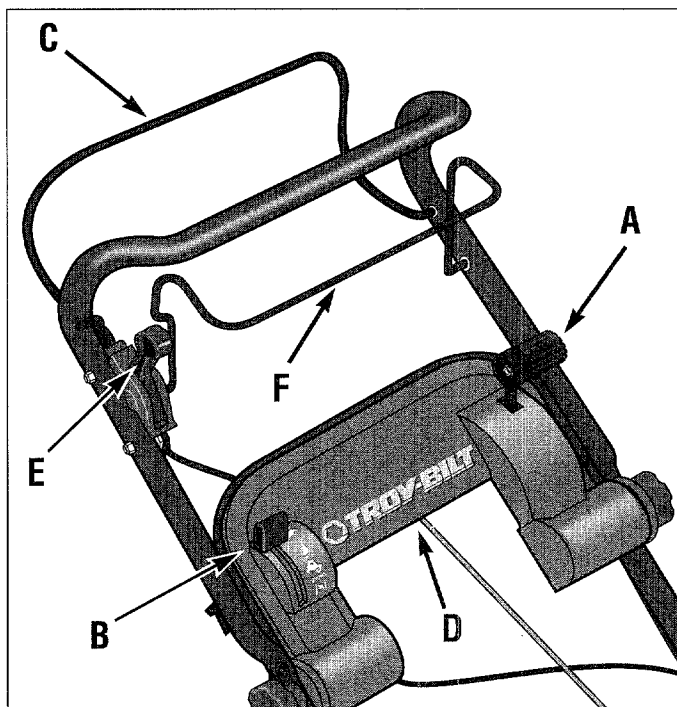
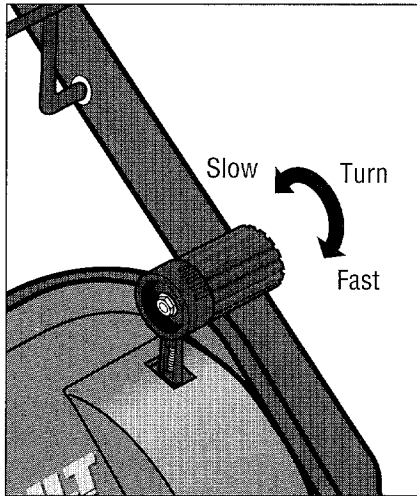

Figure 4-10: Operating Controls on Models 34311 and 34328.
Figure 4-11: Operating the Wheel Speed Adjustment Knob.
IMPORTANT: This model is equipped with a Blade Brake Control System which allows engine to run and wheels to move mower forward without mower blade rotating. See F in Figure 4-10 which is Blade Brake Control Bar. Test operation of Blade Brake Control Bar before each use of mower. See Maintenance Section for test procedure.
- C. Check that the Wheel Drive Control Bar (C, Figure 4-10) is in the **DISENGAGE** (released) position.
- D. Move the Engine Speed Lever (B, Figure 4-10) forward past the **FAST** position to the **CHOKE** position.
- E. Make sure that the Blade Brake Control Bar (F, Figure 4-10) is in the **DISENGAGE** (released) position.
- F. Firmly grasp Recoil Starter Rope Handle (D, Figure 4-10).
- A. Turn the Wheel Speed Adjustment Knob (A, Figure 4-10) until the arrow on the knob points to the desired setting: 1 (*slow*) to 5 (*fast*). See Figure 4-11.